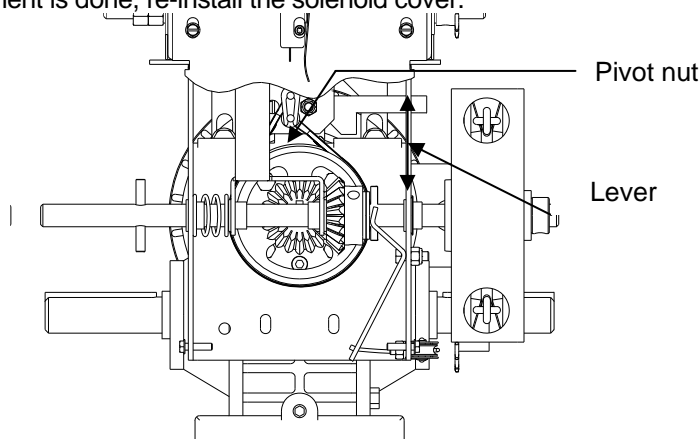

Figure 15 Brake system
2. Slightly unscrew the pivot nut (Figure 15)